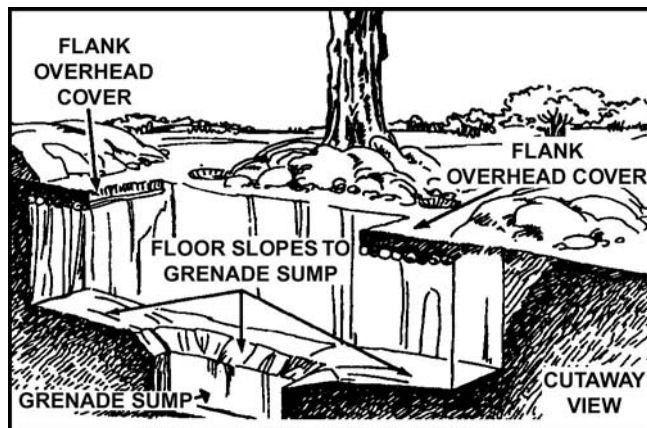

Figure 7. Flank overhead cover.
6. Construct flank overhead cover when frontal overhead cover would significantly increase the silhouette of the position, making it vulnerable to detection (Figure 7).